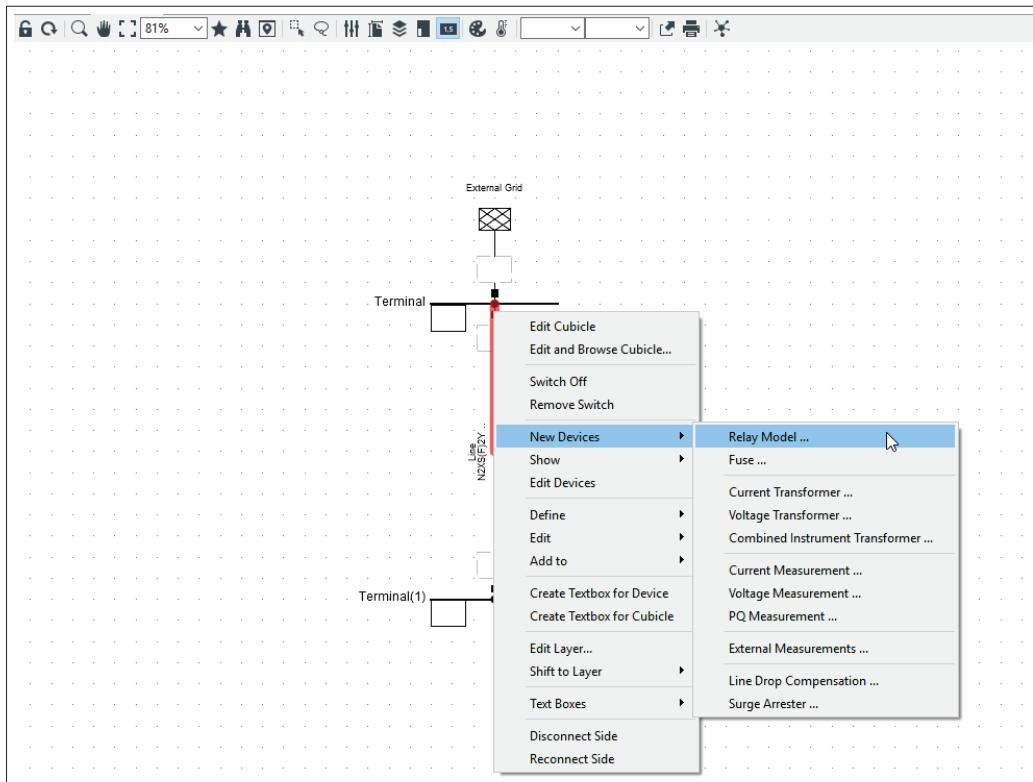

Figure 24.16.9: Cubicle context menu
- Select *New Devices.../Relay Model...* as shown in Figure 24.16.9.